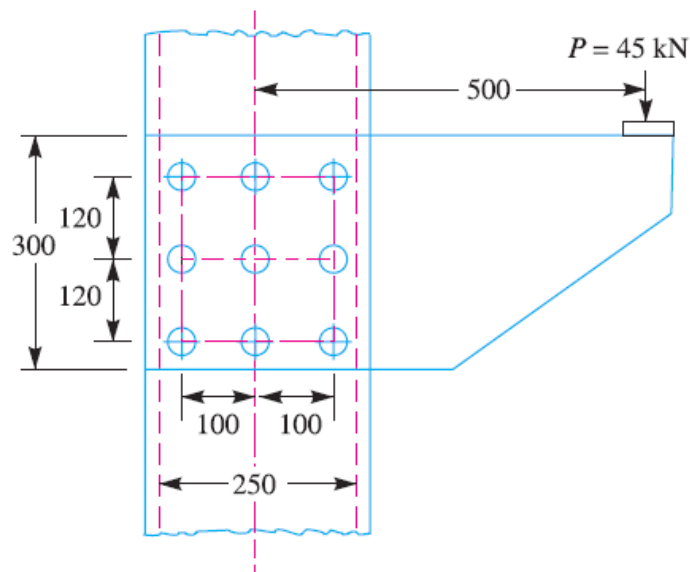

Fig.1
- 1) The bracket as shown in Fig.1 is to carry a load of 45 kN. Determine the diameter of the rivet if the shear stress is not to exceed 40 MPa. Assume all rivets of the same size.